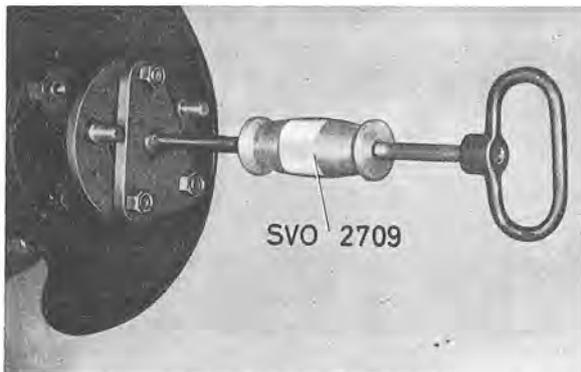

Fig. 4-133. Removing the drive shaft
3. Slacken the bolts for the thrust washer. These are slackened through the holes in the drive shaft flange. Pull out the drive shaft with puller SVO 2709, see Fig. 4-133.
2. Release the bolts for the brake backing plates and brake shoe retainers. They are slackened through the holes in the drive shaft flanges. Pull out the drive shafts with puller SVO 2709, see Fig. 4-133.